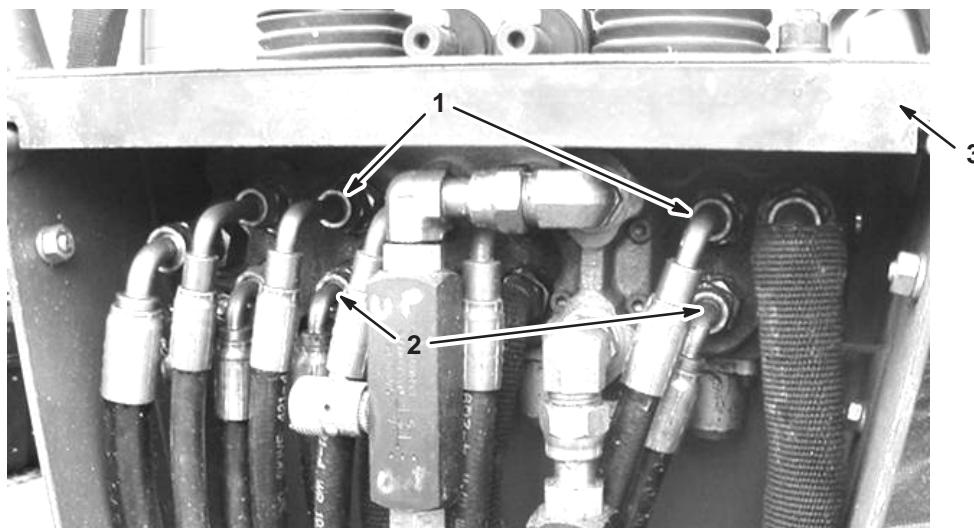

Figure 2
6. Disconnect the lower hydraulic hoses indicated in Figure 2.
8. Disconnect the upper hydraulic hoses indicated in Figure 2.